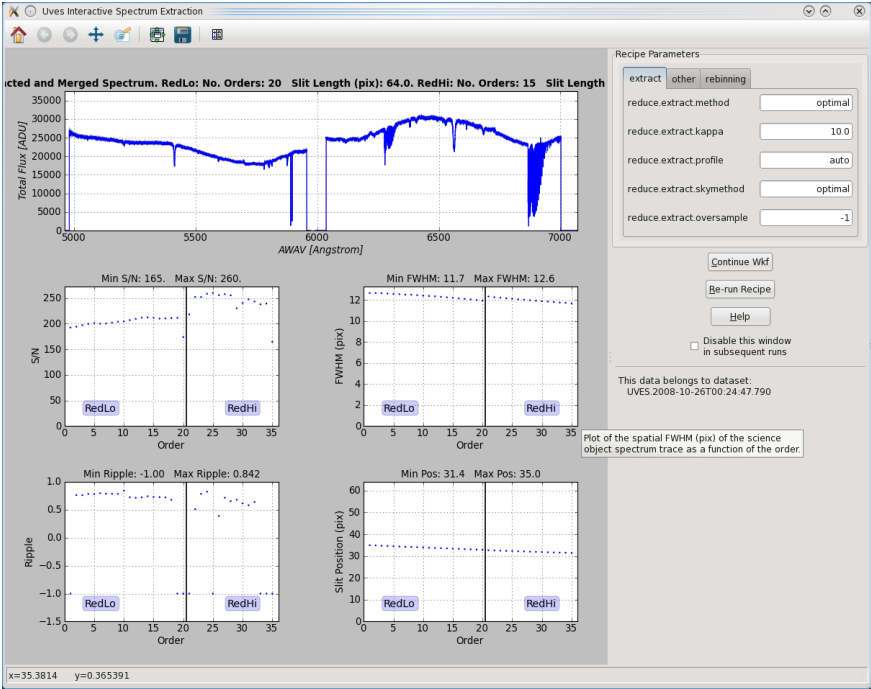

Figure 7.4: The interactive window for the Spectrum Extraction actor for the first DataSet in the data supplied with Reflex 2.4.
15. **Spectrum Extraction:** In Figure 7.4, we show the interactive window associated with the `Spectrum Extraction` actor, which executes the UVES pipeline recipe `uves_obs_scired`. This pipeline recipe performs the extraction of the science object spectrum using optimal extraction (Horne 1986),